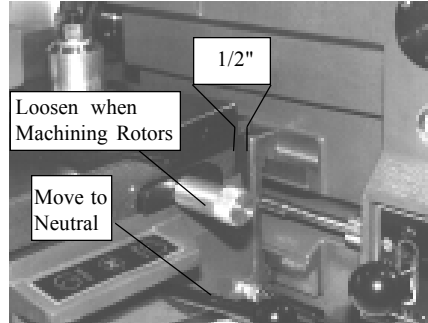

Figure 30
If control lever moves freely to rotor position, alignment is correct. If it does not, then examine the pointers for proper alignment. Push the control lever to the neutral (N) position and turn off the lathe. **See Figure 30.**
3. If drum machining was the last operation performed, remove the tool post nut, washer, and the tool bar assembly. Always loosen cross slide adjusting knob when preparing to machine disc brake rotors. **See Figure 30.**
6. Advance cross slide to within approximately 1/2" of its extreme inward position. **See Figure 30.**
Before placing the rotor-truer on the adjustable pivot post, it is extremely important that all chips, dirt, and any foreign matter be removed from the top of the cross slide and the bottom surface of the rotor-truer plate. Because of the very large contact area between the rotor-truer plate and the cross slide, any small chips or pieces of dirt measuring only a few thousandths of an inch can cause the rotor to be machined improperly. If chips are present, you may notice that extra effort is required to turn the micrometer dial wheel. **See Fig. 30.**